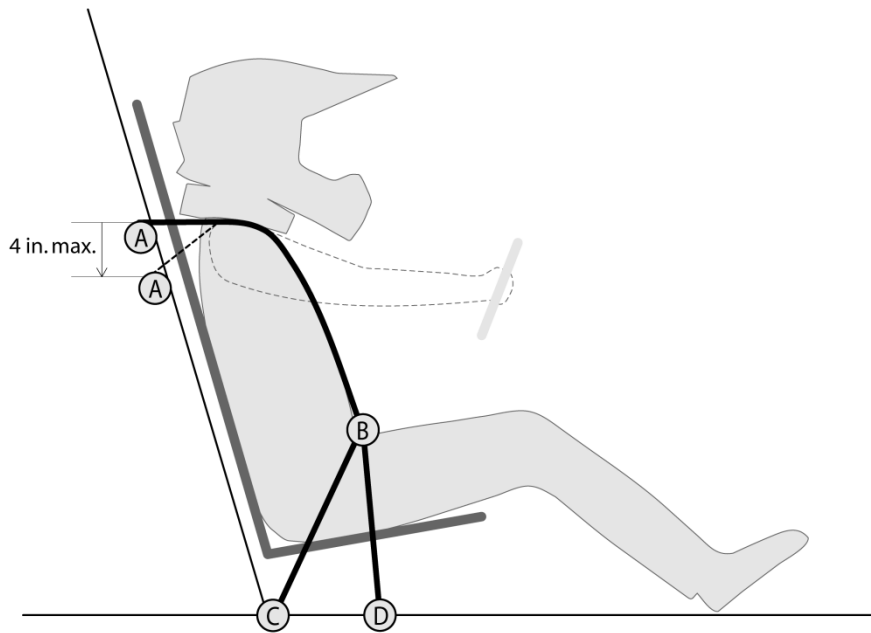

Figure B-31: Driver Harness, Shoulder Harness Vertical Position
The shoulder belt mounting point (A) (see Figure B-31) shall be positioned no higher than vertically level with each driver's shoulders, and no lower than 102 mm (4.0 in.) vertically below each driver's shoulders.